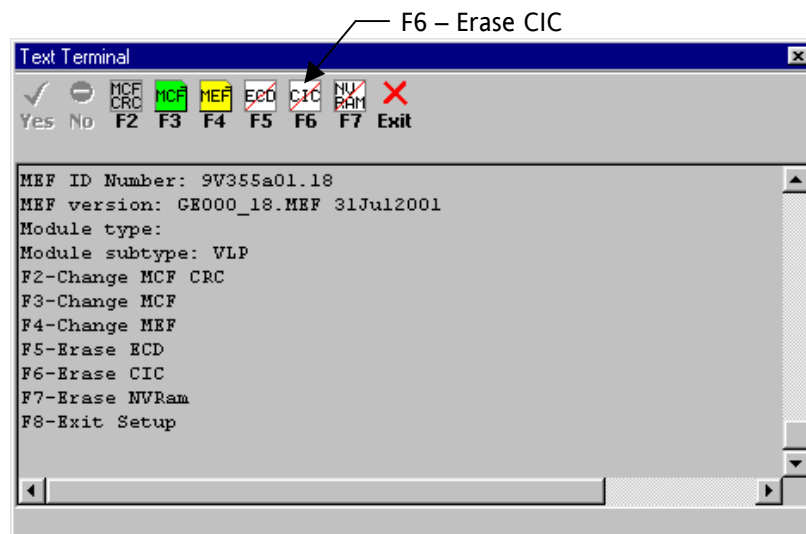

Figure 3-34
3. A boot screen similar to figure 3-34 appears. From the Function Key options, select **F6** (Erase CIC).